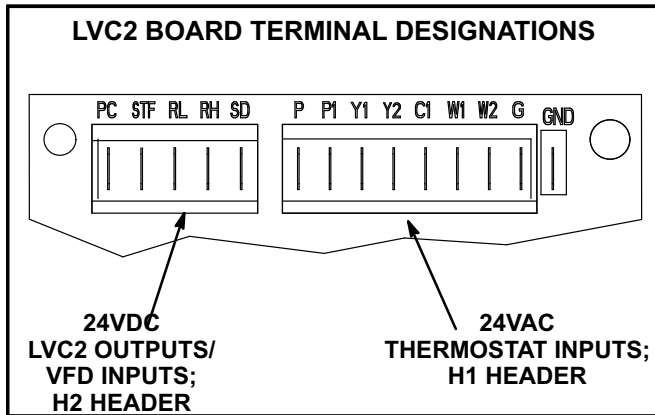

FIGURE 21
- 3- Check for 24VAC signal at the thermostat blower input (G to GND terminal). See figure 21.